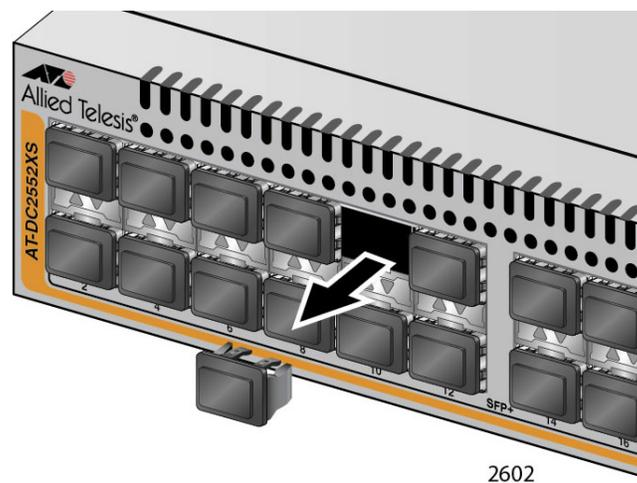

Figure 29. Removing the Dust Plug from a SFP+ Slot
- Remove the dust plug from a SFP+ slot on the switch. Refer to Figure 29.